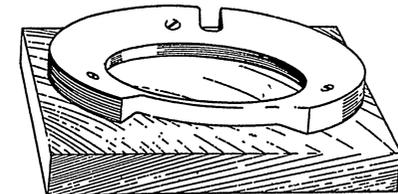

Fig. 3. Valve body support ST.5021
- (1) Mount the bottom chamber on the valve body support ST.5021 (fig. 3). This fixture is a hardwood block with a shaped face to accommodate the body casting. The casting fits on the fixture with the discharge valve seating downwards, and is held firmly whilst the various components are dismantled from it.
- (2) Unscrew the three countersunk-head screws from the rim of the slotted cover, and remove the cover.
- (3) Unscrew the two countersunk-head screws from the inwards relief valve seat-